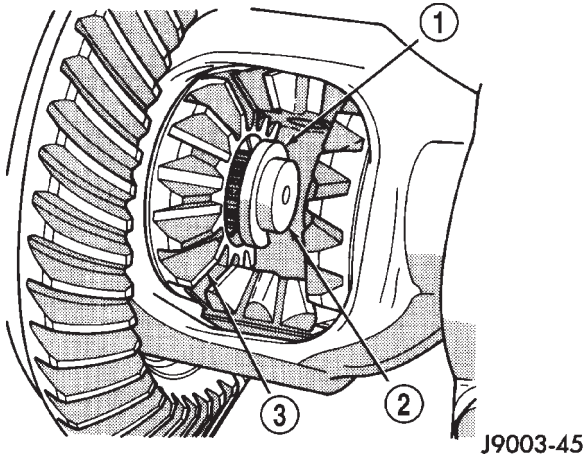

Fig. 20 Axle Shaft C-Clip Lock
(7) Push axle shaft inward and remove axle shaft C-clip lock from the axle shaft (Fig. 20).
(8) Remove axle shaft. Use care to prevent damage to axle shaft bearing and seal, which will remain in axle shaft tube. Also, exercise care not to damage the